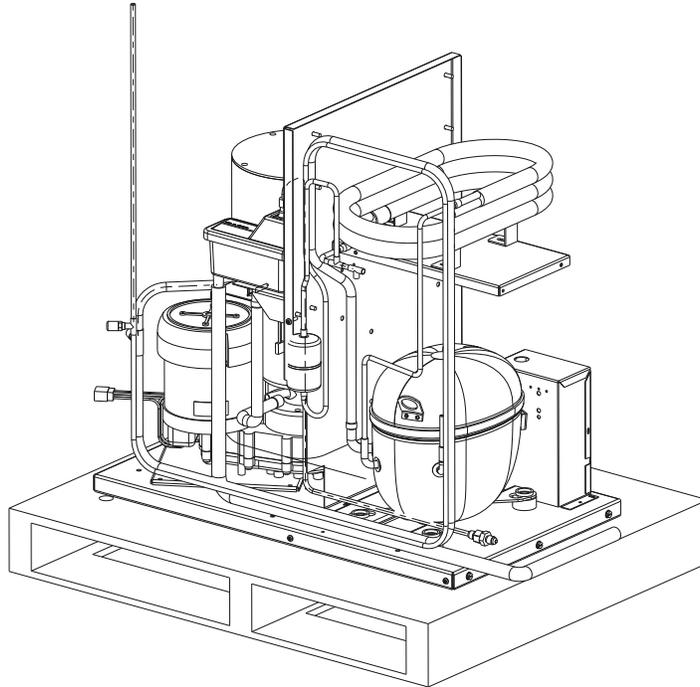

Figure 8. Refrigeration Layout
11. Insulate the suction line assembly and TXV as shown in Figure 8 and put the tie wraps firmly on the insulation.